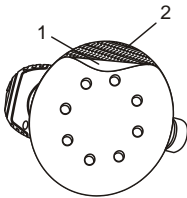

Fig. 5
To remove the sanding disc (1), simply peel the disc away from the hook & loop pad (2) (Fig. 5).